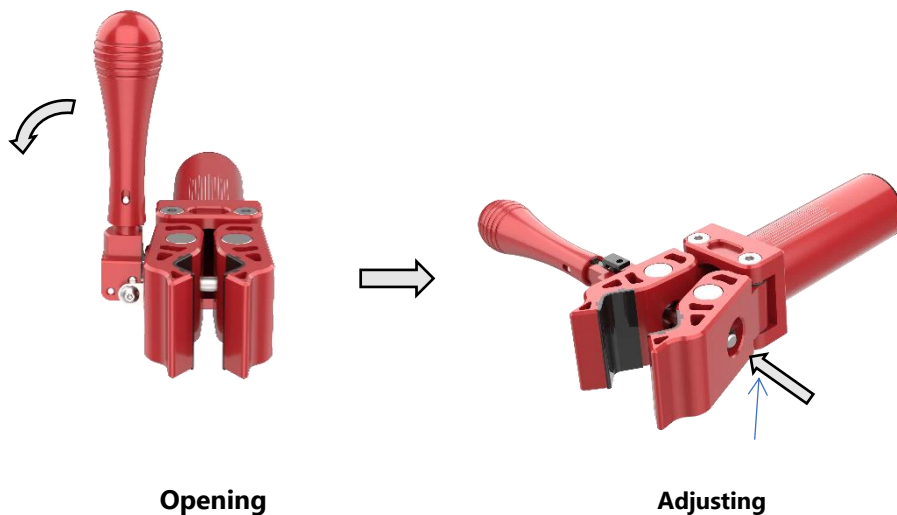

Figure 22. Opening and adjusting the width of the Clamp Jaws.
- Close the Clamp Jaws and then adjust the Clamp Jaw Tensioning Nut (see “Figure 22. Opening and adjusting the width of the Clamp Jaws”) to 8 Nm Torque (example) or whatever the User is able to comfortably manage. If the User is unable to close the clamp with the Clamp Jaw Tensioning Nut set at 8 Nm of torque, then an Auto Clamping model is indicated.